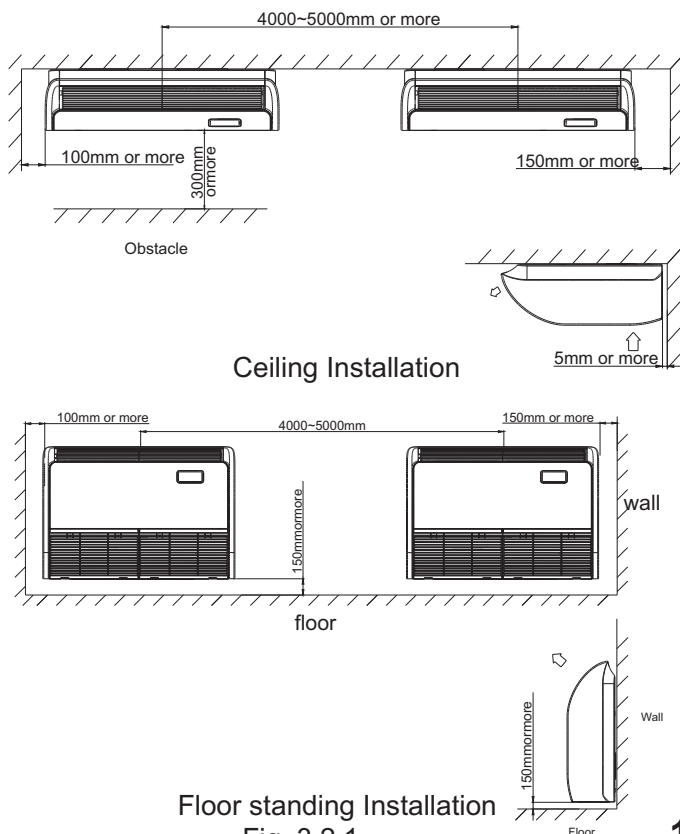

Fig. 3.2.1
- Sufficient clearance for maintenance and servicing is ensured.(See Fig.3.2.1)